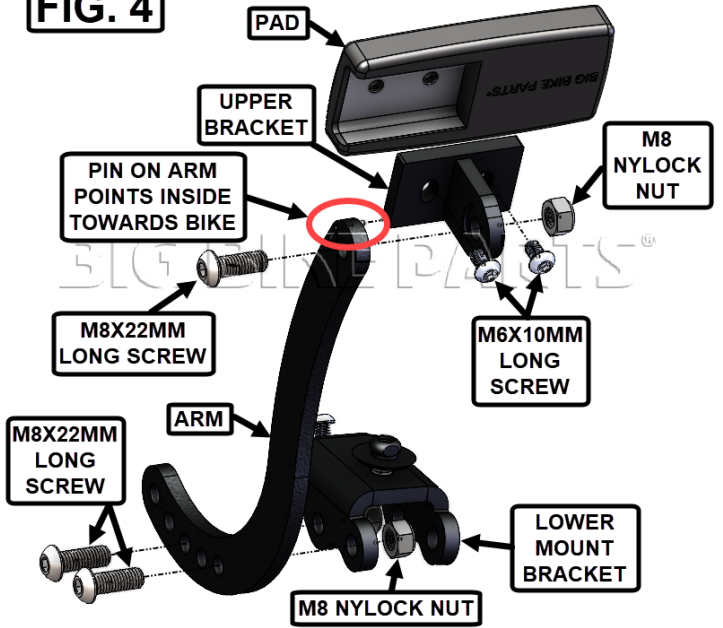
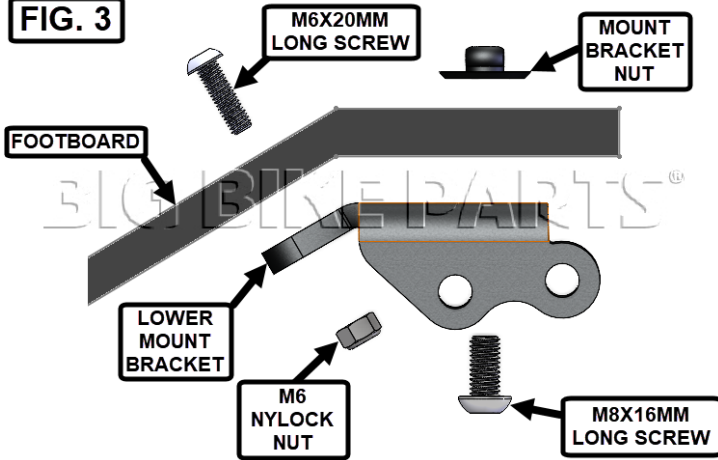

FIG. 3
FIG. 5
3. INSTALL THE LOWER MOUNT BRACKET UNDER THE FOOTBOARD ACCORDING TO FIG. 3 USING THE HARDWARE FROM STEP 2. ASSEMBLE AND INSTALL THE RIGHT HIGHWAY FOOTREST ACCORDING TO FIG. 4. **NOTE: INSTALL THE PAD TO THE UPPER BRACKET FIRST.** (FIG. 5 SHOWS THE 3 DIFFERENT POSITIONS THAT THE ARM CAN BE MOUNTED. THE PAD AND UPPER BRACKET CAN ALSO BE FLIPPED 180 DEGREES TO MOUNT FURTHER OUT FROM THE BIKE.)